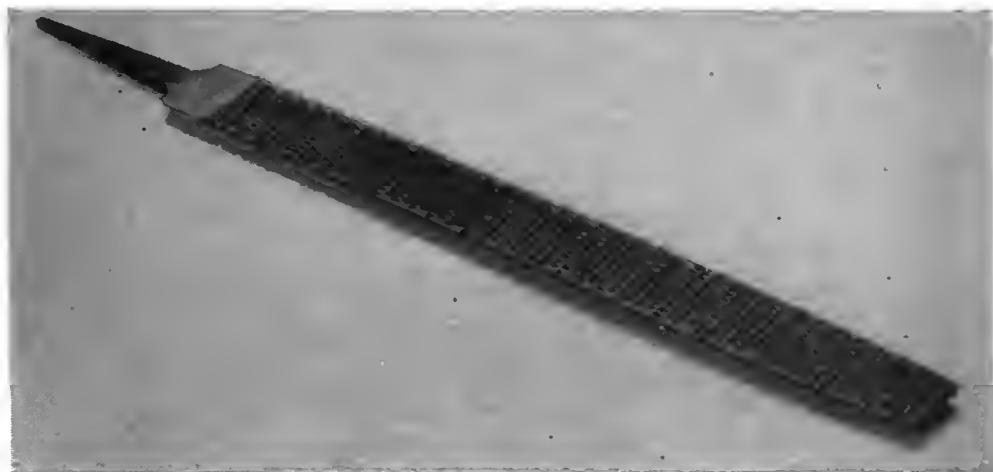

Figure 108. *Rasp.*
j. RASP. A rasp is a very coarse file with the individually cut teeth. (See fig. 108.) It is used on wood as a file is used on metal. A file is sometimes used for fine work on irregularly shaped wood parts.